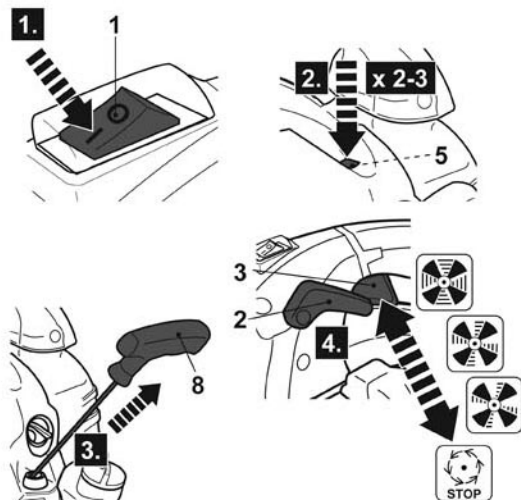

Fig. 17
- > Set the ignition switch (1) to the ON position I (Fig. 17, step 1).
- > Press the primer (5) 2 to 3 times (Fig. 17, step 2).
- > Ensure the choke (7) is on the position **RUN**.
- > Pull the recoil starter handle (8) lightly until you feel resistance then pull it rapidly until the engine starts (Fig. 17, step 3).
- > Have firm grip on the handles. For vacuuming operation, grip the product with both hands, the left hand on the auxiliary handle (13) and the right hand on the main handle (4); for blowing operation, grip the product with the right hand on the main handle (4).
- > Squeeze the throttle trigger (3) to start the operation (Fig. 17, step 4). The speed is controlled by how far the throttle trigger is depressed.
- > Use the lock-on lever (2) to lock the throttle trigger (3) in position for continuous operation if required.